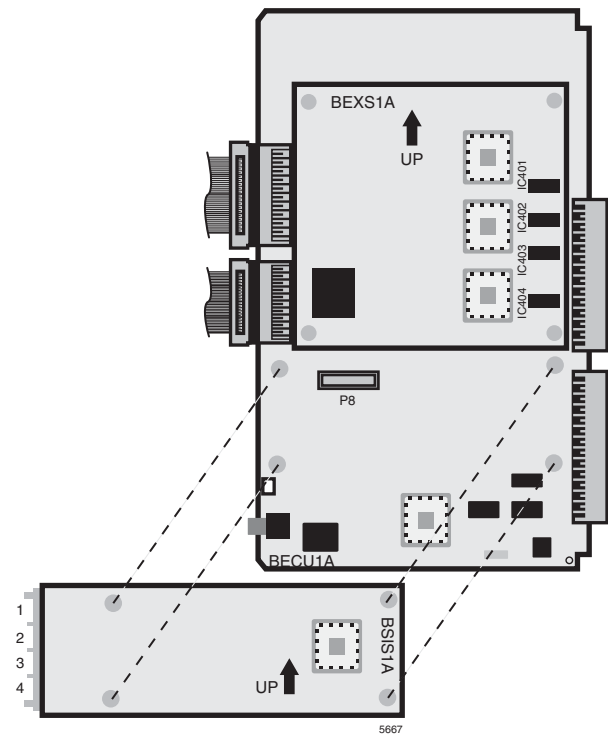

Figure 3-25 Installing BSIS onto BECU
7. If serial ports are required, install the BSIS onto the BECU (see Figures 3-25 and 3-26).